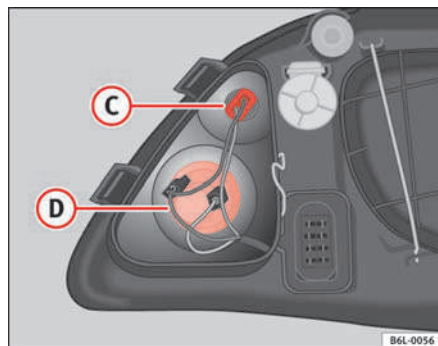

Fig. 149 Indicator lights
- Turn the lamp holder to the left and remove it from the casing ⇒ fig. 149 ②.